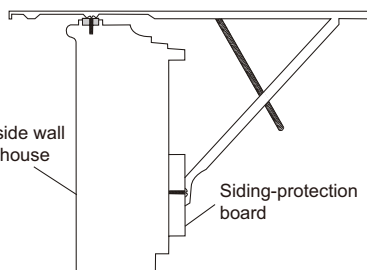

FIG.8C
- Place the support bracket on the window sill as shown (FIG.8C). Using the holes in the support bracket as a guide, mark and drill two 1/8" diameter holes.
- After apply the track seal, use two 3/8" screw (item 17) to fixing the support bracket. Make sure the support bracket is level form side to side. Proceed to Step 9 after you finish fixing the support bracket.